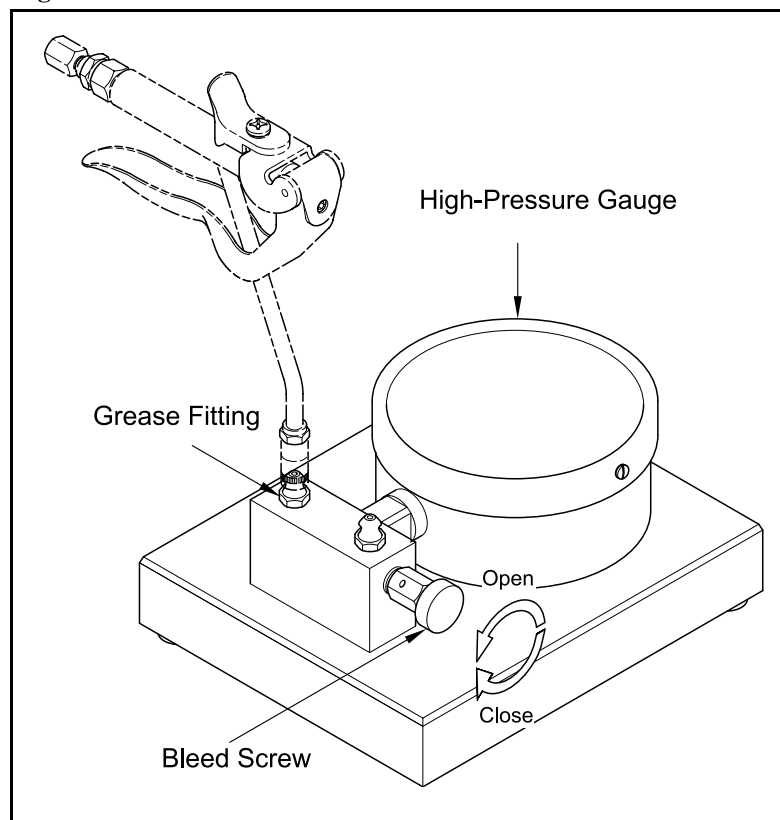

Figure 10 High-Pressure Test Gauge Assembly - Model 5287
2. Attach the Control Valve to the high-pressure test gauge assembly (special tool). See **Figure 10**.